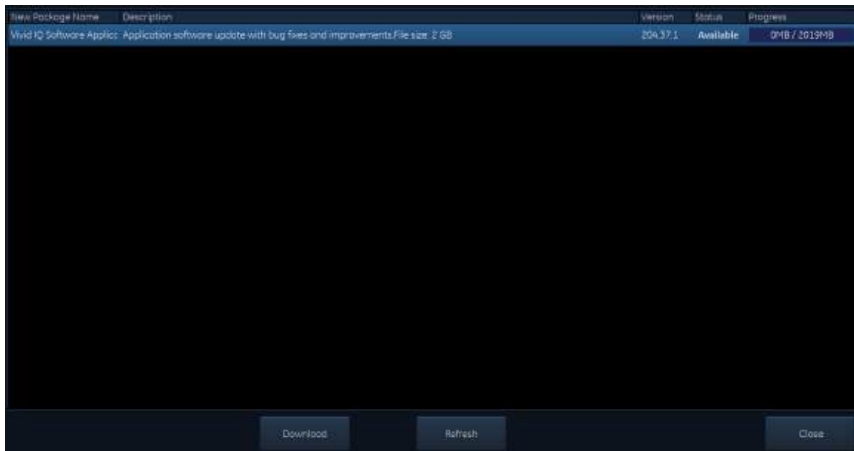
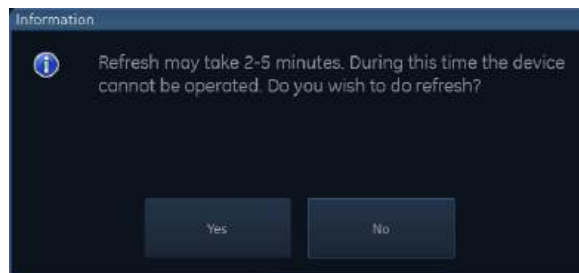

Figure 14-9. Software Available in the List
Figure 14-10. Refresh Confirmation
3. Press the **Download** button from the tray menu (Figure 14-9) or go to **Configure > About** page to press **Check updates** button (Figure 14-10).